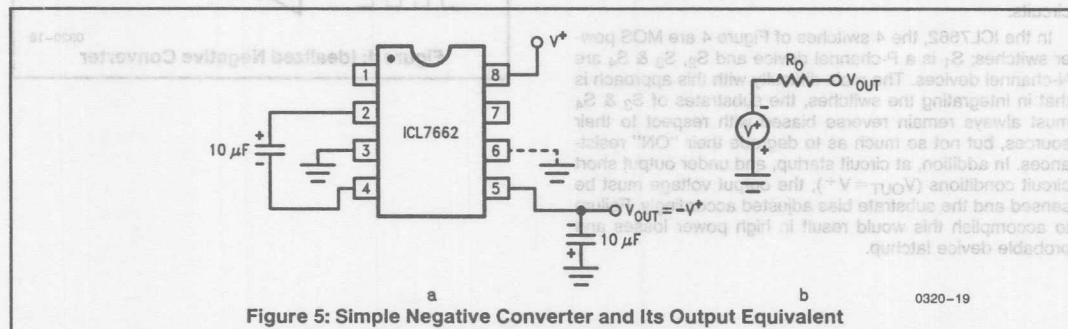
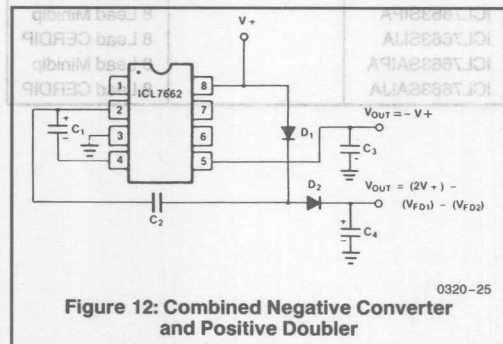

Figure 5: Simple Negative Converter and Its Output Equivalent
Figure 12: Combined Negative Converter and Positive Doubler
The majority of applications will undoubtedly utilize the ICL7662 for generation of negative supply voltages. Figure 5 shows typical connections to provide a negative supply where a positive supply of +4.5V to 20.0V is available. Keep in mind that pin 6 (LV) is tied to the supply negative (GND) for supply voltages below 11 volts.
Figure 12 combines the functions shown in Figures 5 and 11 to provide negative voltage conversion and positive voltage doubling simultaneously. This approach would be, for example, suitable for generating +9 volts and -5 volts from an existing +5 volt supply. In this instance capacitors C_1 and C_3 perform the pump and reservoir functions respectively for the generation of the negative voltage, while capacitors C_2 and C_4 are pump and reservoir respectively for the doubled positive voltage. There is a penalty in this configuration which combines both functions, however, in that the source impedances of the generated supplies will be somewhat higher due to the finite impedance of the common charge pump driver at pin 2 of the device.